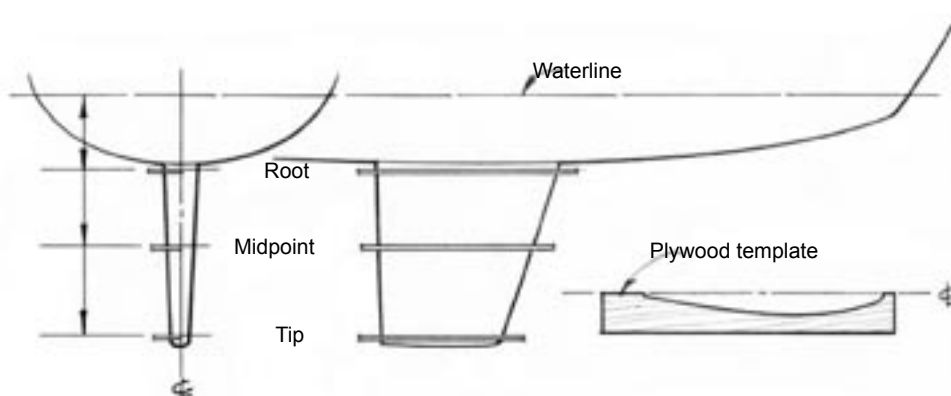

Figure 8-5 Transfer the profiles from the root, midpoint and tip of the keel to 12mm plywood.
1. Obtain the profiles for three locations on the keel - the root (top of the keel near the hull attachment point), the midpoint and the tip of the keel. Enlarge the profiles as necessary to full size and transfer the profiles to 12mm. plywood (*Figure 8-5*). Cut out the three templates with a band saw or sabre saw. Abrade the edges of the foil shape carefully to eliminate any bumps or unfairness. Mark the centreline of the keel on each end of the template. Seal the profile edge of the templates with a coat of epoxy and sand them smooth after the epoxy cures.